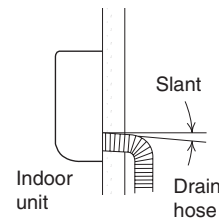

Fig. 1-178
- a) The drain hose should be slanted downward to the outdoors. (Fig. 1-178)